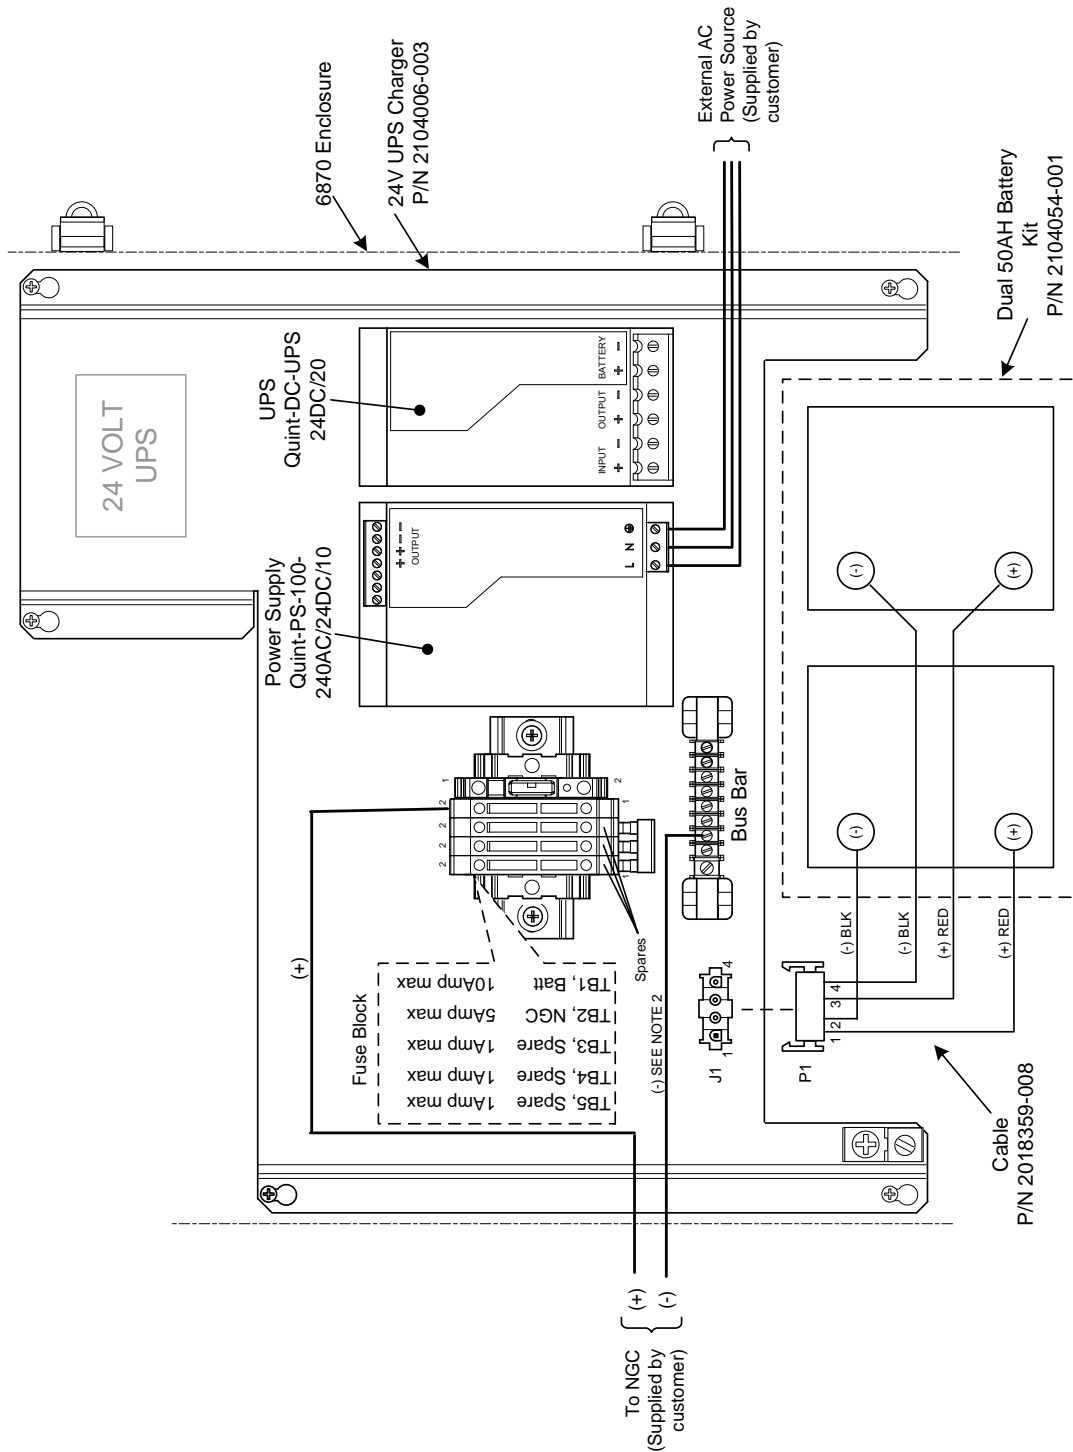

Figure 3-65 115/230 VAC UPS Power Supply Option
- 4) Using wiring instructions in Figure 3-65, make the field connections from the 115 VAC hot and neutral or the two hot wires for 230 VAC.
- 6) Remove the J1 connector from the NGC termination panel. Using the wiring instructions in Figure 3-65, make field connections from the power supply wire as shown to J1 connector (+) pin and connect the ground wire to J1 connector (-) pin. Do not re-insert the J1 connector to the termination board.